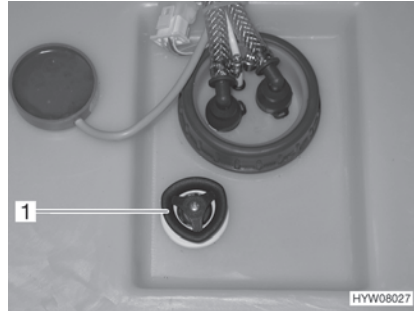

Fig. 129 Water tank with rotary handle
- Turn the rotary handle (Fig. 129,1) on the water tank in a clockwise direction as far as it will go.
- Turn the rotary handle (Fig. 129,1) on the water tank in an anticlockwise direction as far as it will go. Excess water will drain away leaving approx. 20 litres in the tank.